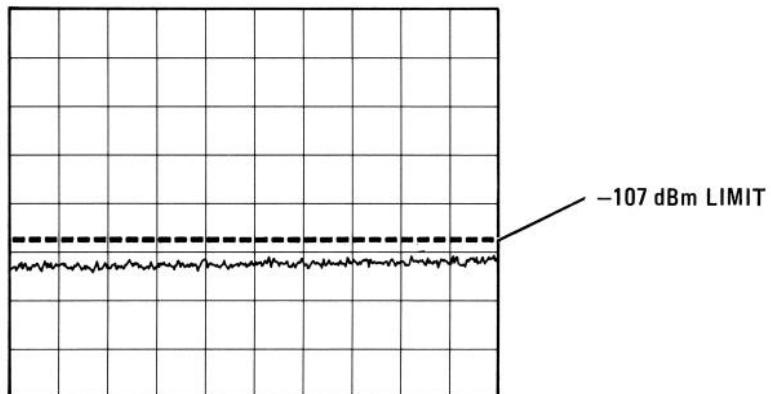

FIGURE 4-12. AVERAGE NOISE LEVEL MEASUREMENT
- Adjust TUNING until LO feedthrough is not on screen. Set VIDEO FILTER to MAX (not in detent) and observe CRT display of noise level from 1 MHz to 1000 MHz. Noise level, as shown in Figure 4-12, should be less than  $-107$ .
*001: Change " $-107$  dBm" to " $-100$  dBm" throughout procedure and in Figure 4-12.*
*002: Change " $-107$  dBm" to " $-53$  dBmV" throughout procedure and in Figure 4-12.*